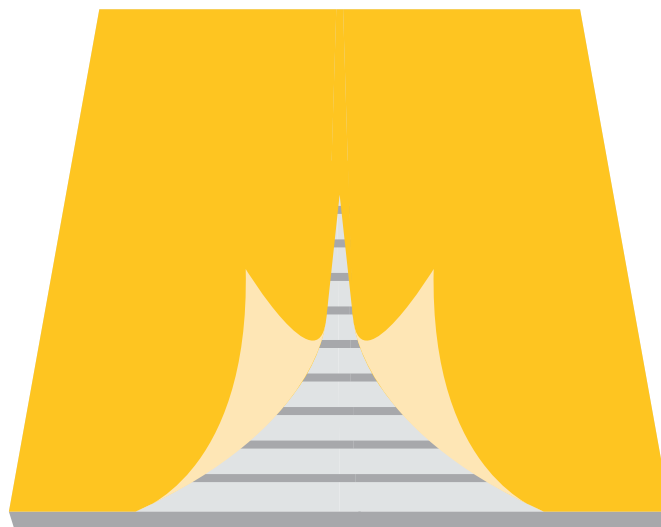

Figure 3
- iii. Spread adhesive perpendicular to seam (refer to **Figure 3**).